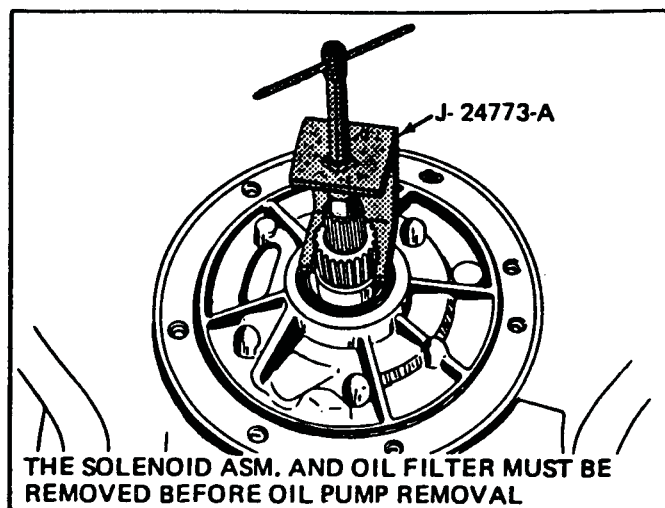

Figure 48
2. Install J-24773-A oil pump remover (Figure 48).